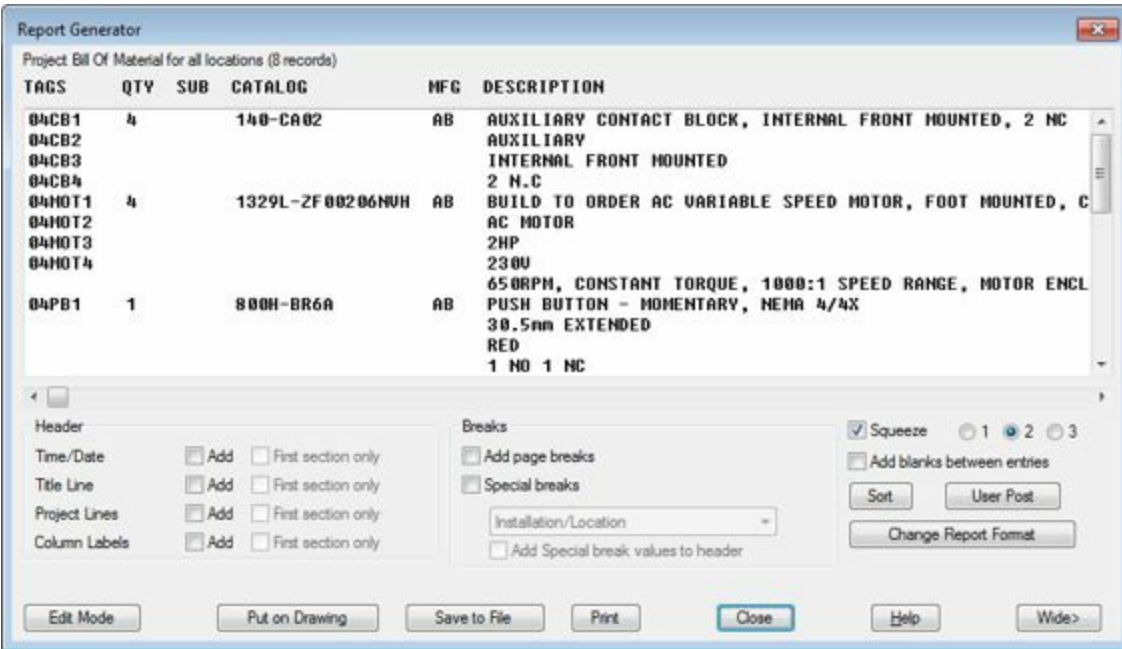

Figure-35. Report Generator dialog box
- Click on the **OK** button from the dialog box. The **Report Generator** dialog box will be displayed; refer to Figure-35.